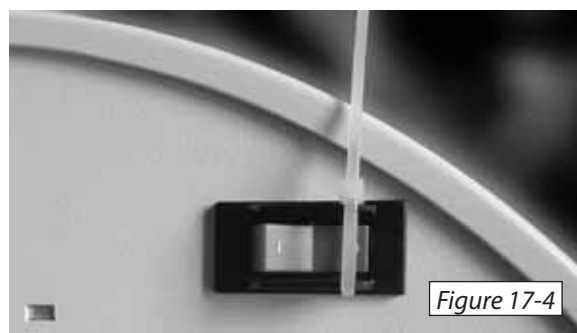

Figure 17-4
**6.** On the backside of the chassis, there is an on/off switch. Cut off and discard the shipping tie on the switch. *[Figure 17-4]*